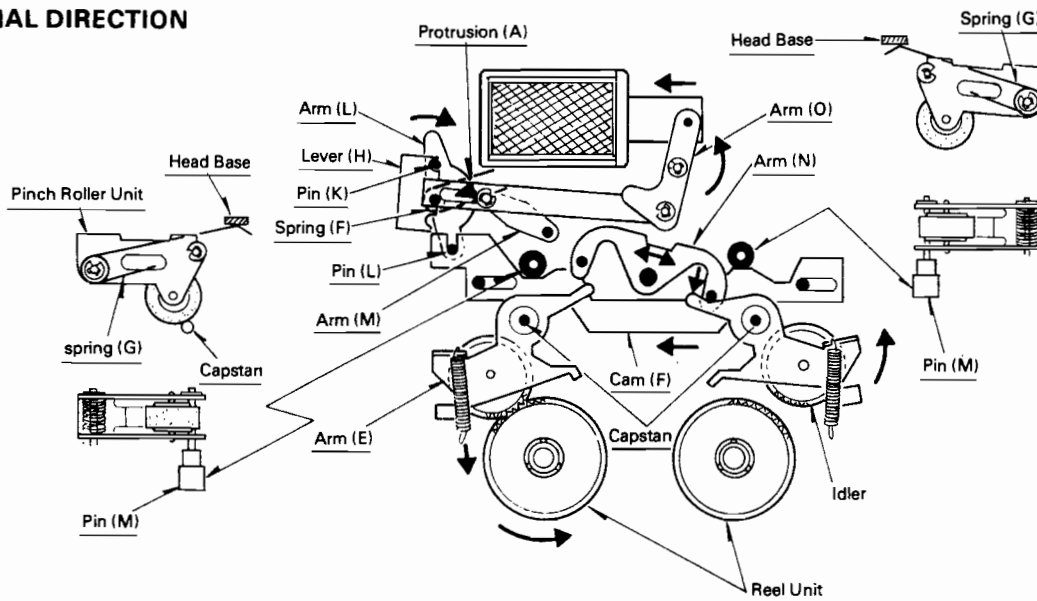

Fig. 14
• Auto Reverse mechanism (Fig. 14 and 15)
1. When the sensing mechanism is activated with the Head Base advanced, the pin at the end of the main solenoid causes Arm (O) to rotate so that Lever (H) is attracted.
2. Lever (H) engages either Pin (K) or (L), attached to Arm (L), to cause Arm (L) to rotate. Pin (L) engages the groove of Cam (F), so that Cam (F) moves right and left to rotate Arm (N) and cause the Arm (E) to move vertically, and stop the rotation on either side of the Reel Units.
3. Cam (F) contacts Pin (M), which is attached to the Pinch Roller Unit. Pin (M), through the pressure of Spring (G), with the claw protruding toward the Head Base as its stopper, is provided with constant downward force.
4. Pin (M), via Cam (F), moves vertically to control the contact of the Capstan on one side with the Pinch Roller.
5. Spring (F), mounted to the rotating shaft of Arm (L) via the protrusion (A) of Arm (L), rotates in the same direction as Arm (L) to store sufficient force to move Arm (M).
6. Said force, when Lever (H) rotates Arm (L) and is returned to its normal position (when the Lever (H) engages neither Pin (L) or (K)), affects the oval hole on Lever (H) to incline the Lever (H) toward the opposite side.